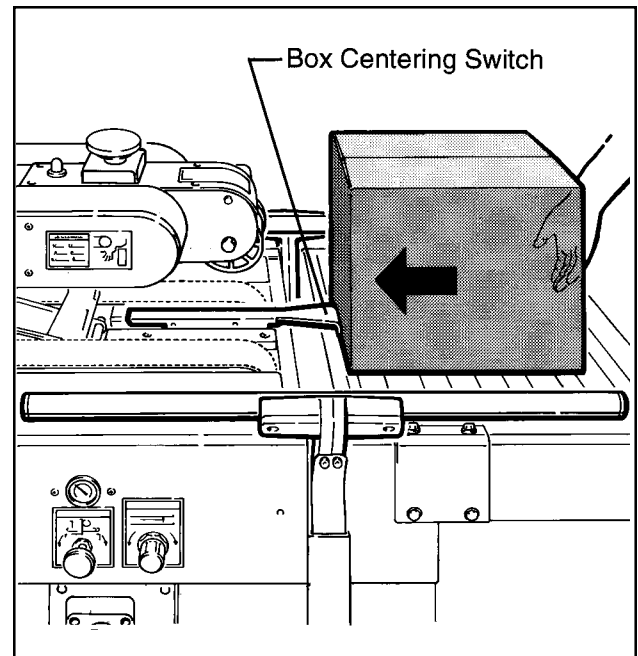

Figure 3-7 – Box Centering Switch
1. A box centering switch in the center of the infeed roller conveyor actuates movement of the centering guides. When the operator pushes a box onto the infeed conveyor, as shown in Figure 3-7, the lever is depressed causing the air cylinder powered centering guides to move inward, thereby centering the box.